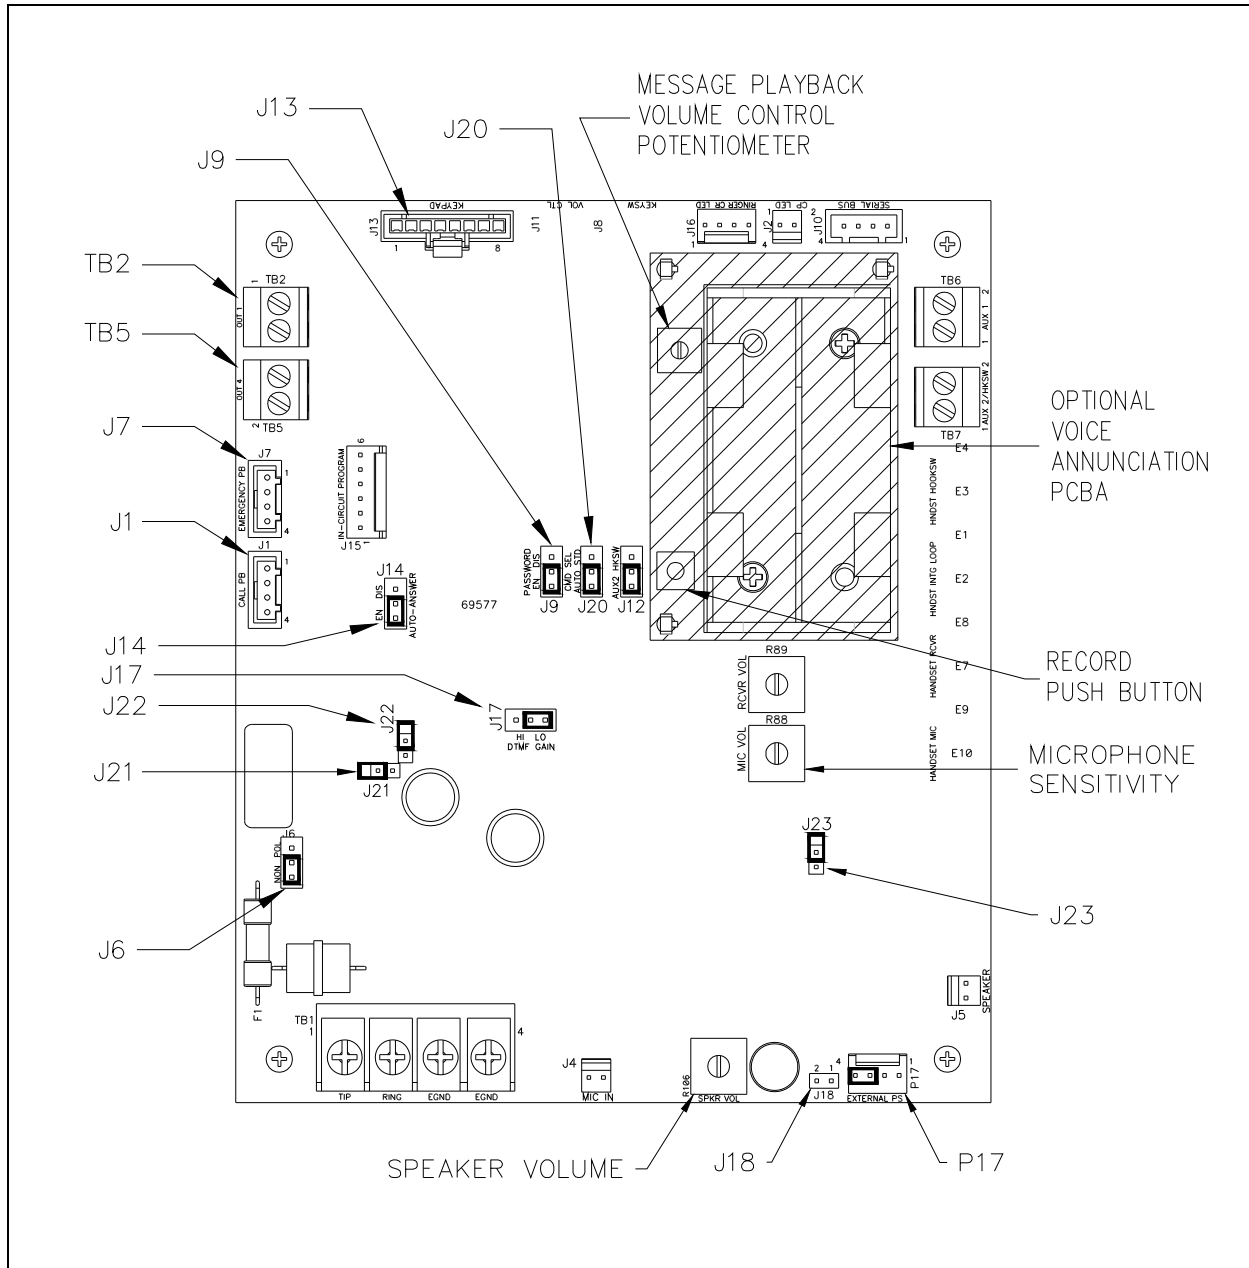

Figure 32. No. 69577-101 Emergency Telephone PCBA (Top View)
- Adjust the audio levels if necessary. Refer to Figure 32 for “Speaker Volume” and “Microphone Sensitivity” potentiometer locations.
The Plug-in Power Supply is used for operations below -4°F (-20°C) and requires 120 V ac input to provide a 5 V dc output to the unit. The Plug-in Power Supply is provided with a 4-foot power cable with integral connector that plugs into P17 on the telephone PCBA. Remove the existing jumper from P17 pins 3 and 4 and install it onto the adjacent header J18 when using the plug-in power supply. See Figure 32 on Page 29 for jumper locations.
The hardware configuration options are explained in detail in the following sections and the necessary jumper settings are identified to enable or disable each option. Reading each section and recording the selected options prior to making the necessary changes is recommended. Create a record of your settings using Table 3 on Page 28. See Figure 32 on Page 29 for the jumper locations.
Each telephone includes two isolated solid state switches capable of switching a maximum of 125 mA at 48 V dc or 80 mA at 28 V ac. TB2 (OUT1) and TB5 (OUT4) on the emergency telephone PCBA provide the connections for the auxiliary outputs. Refer to Figure 32 for the location of TB2 and TB5.
Each telephone is shipped with a plug-in power supply that requires a 120 V ac input to provide a 5 V dc output to the unit. The power supply is equipped with a 4-foot power cable with integral connector, which plugs into P17 on the telephone PCBA. P17 must be vacated prior to plugging in the power supply. To do so, remove the jumper from P17 pins 3 and 4 and plug it into the adjacent J18 header. Refer to Figure 32 for the connector locations.
Refer to Figure 32.
Output one connects to TB2 on the telephone’s PCBA (refer to Figure 32). This output closes when an emergency call begins (HELP push button activation only) and remains in that state for the duration of the telephone call. The typical use of this output is to activate the flashing sequence on a GAI-Tronics Strobe.
1. RED ALERT® Telephones that do not include an integral keypad will require the use of a No. 51035-011 Keypad and No. 61504-048 Keypad Cable Assembly. The keypad and cable must be connected to J13 on the PCBA. Refer to Figure 32 for the location of J13.